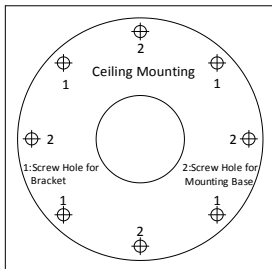

Figure 2-1 Drill Template
1. Drill the screw hole and cable hole according to the supplied drill template (shown as Figure 2-1).